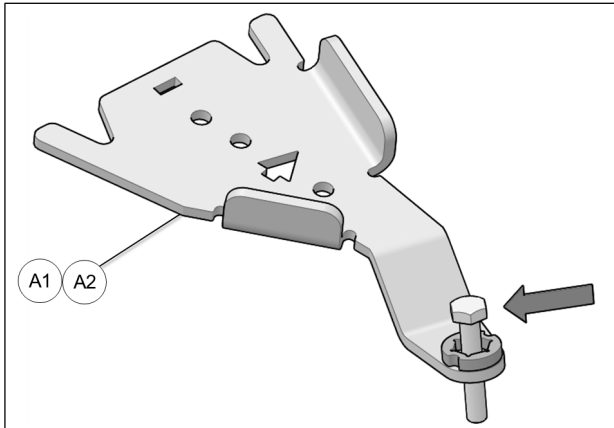

Fig. 14
4. Insert bolt in rear anchor bracket (A1-A2) as shown in Fig. 14